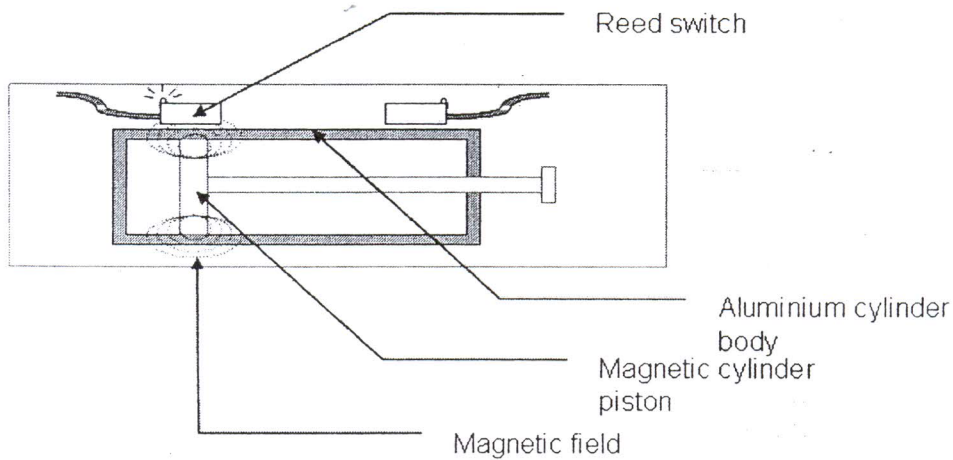

Figure 1: Reed Switch
- (a) State a difference between analog and discrete signal. Draw the output signal waveforms and give **one (1)** example of device that produces these signals. (6 marks)
- (c) State **two (2)** reasons why limit switch is widely used as a position sensor in industrial control devices and consumer electronic products. State **two (2)** advantages of using limit switch. (4 marks)
- (d) Briefly explain the operating principle of Reed Switch in **Figure 1** and draw the symbol (4 marks)